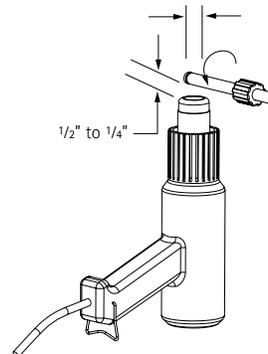

Figure 13
1. If using a Entegris hot air gun, set the hot air gun on "high." Hold the PFA tubing 1/2" to 3/4" above the heater and slowly rotate the tubing 360° for the approximate time specified in Table 20 or until a fine, clear line appears around the tubing (see Figure 13).